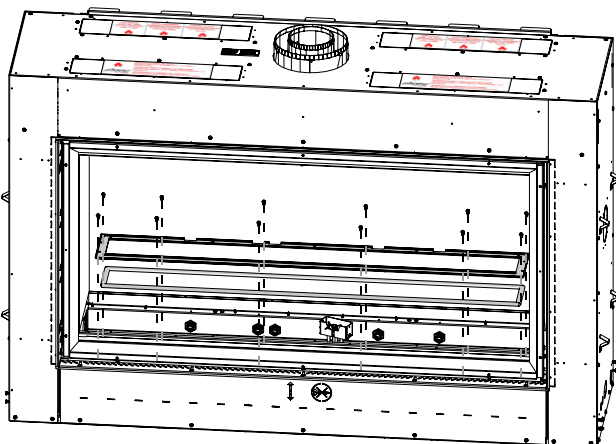

Fig. 2
5. Remove the ember bed bracket and glass by removing the securing screws and lifting from the appliance (Fig. 2).